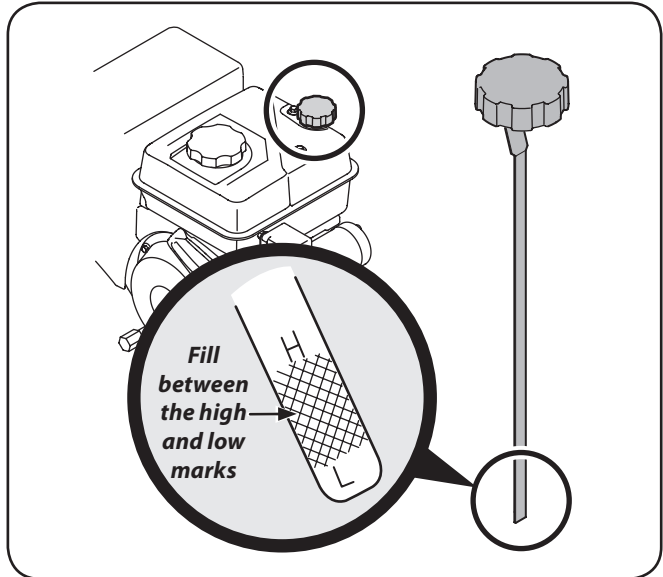

Figure 3-4
1. Remove the oil filler cap/dipstick and wipe the dipstick clean. See Fig. 3-4.
2. Slowly add oil until the oil level registers between high (H) and low (L), Fig. 3-4. Refer to the Engine Maintenance section for the correct oil viscosity and engine oil capacity.